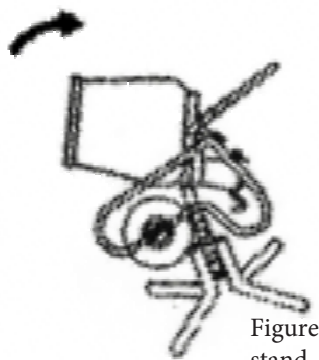

Figure 5. Tilt mixer upright onto stand
4. Once the stand has been attached, move to the opening side of the drum and begin tilting the mixer upright onto the stand. Always bend your knees and use correct posture for lifting. Always tilt from the front of the mixer. (Figure 5)